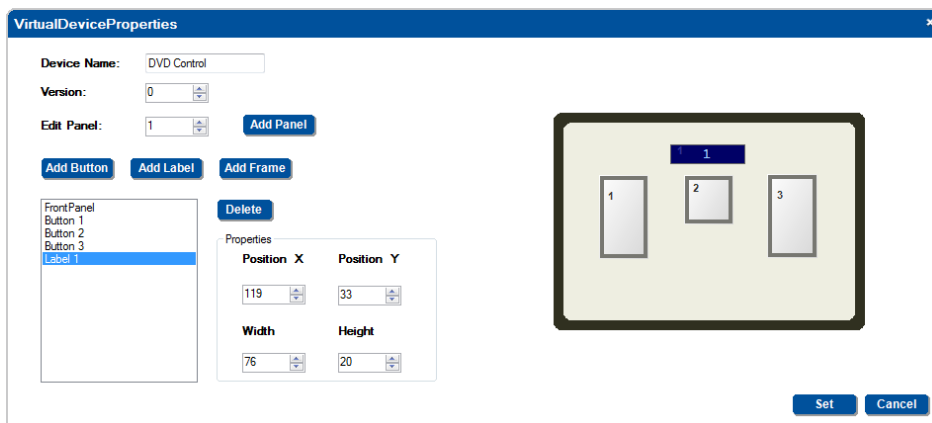

Figure 97: Editing the Virtual Device Appearance (Step 2)
2. Set the size of the front panel, the size of the buttons (up to 32 buttons can be added), the label size and their position, as well as the Device Name (see Figure 97):